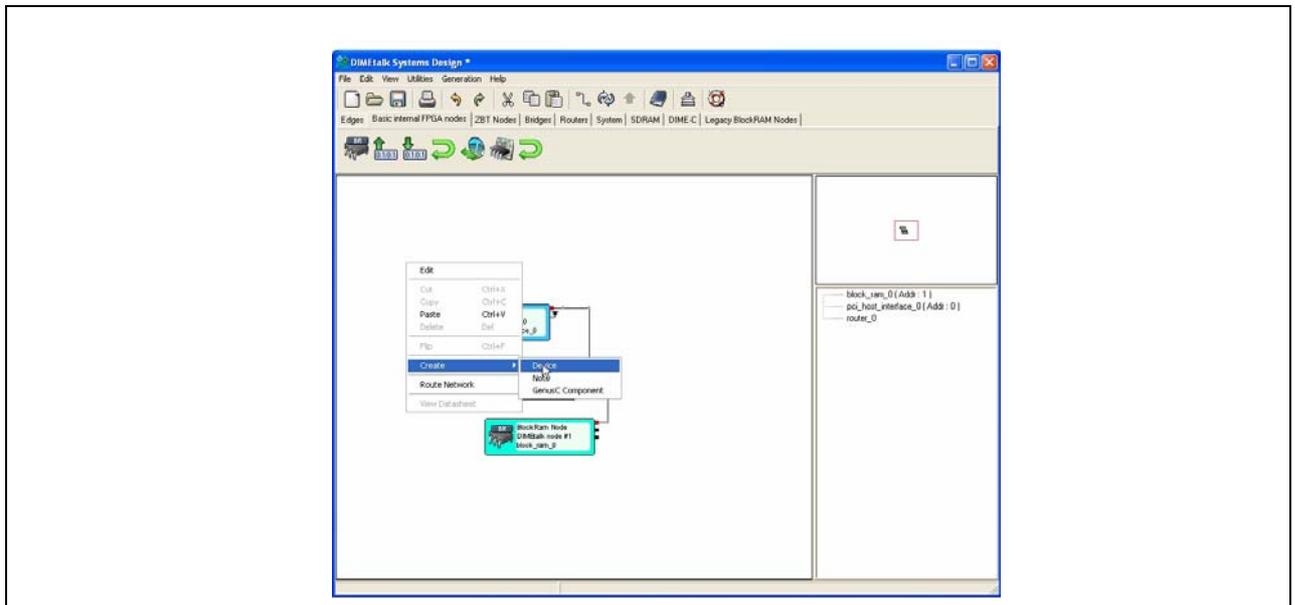

Figure 11: Create a Device
- 6. The device on which this network will reside must be defined. Right-click in free space and select 'Create>Device' from the menu which appears, as shown in **Figure 11**.